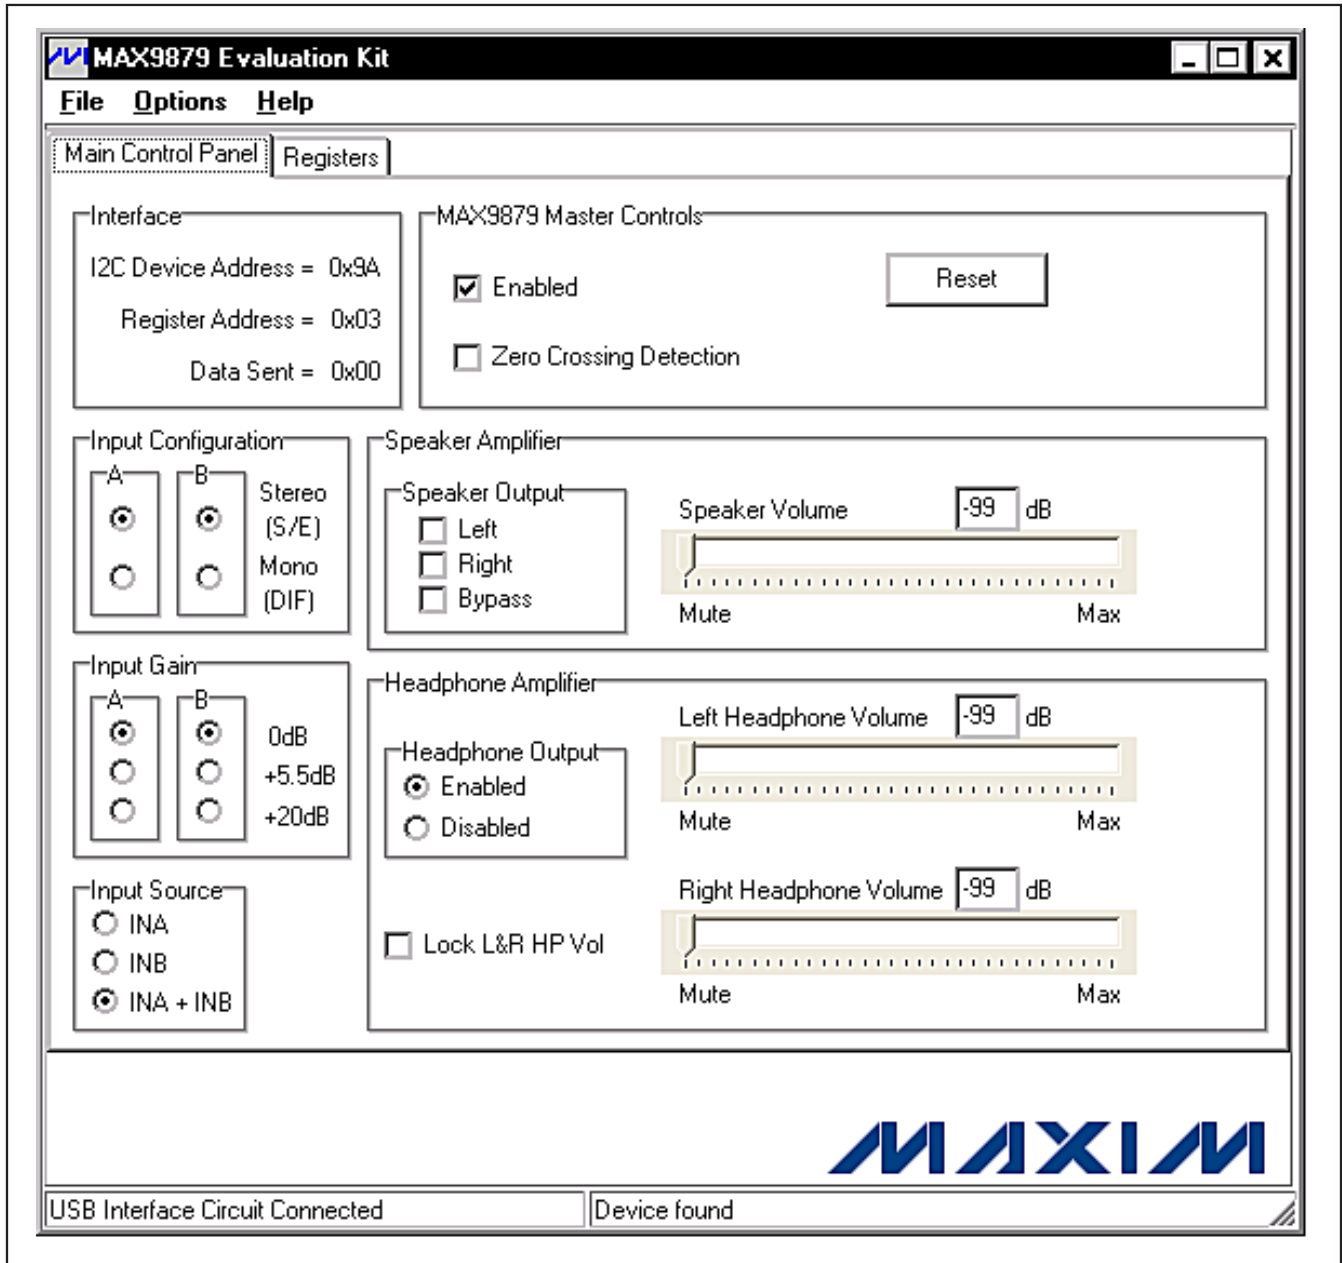
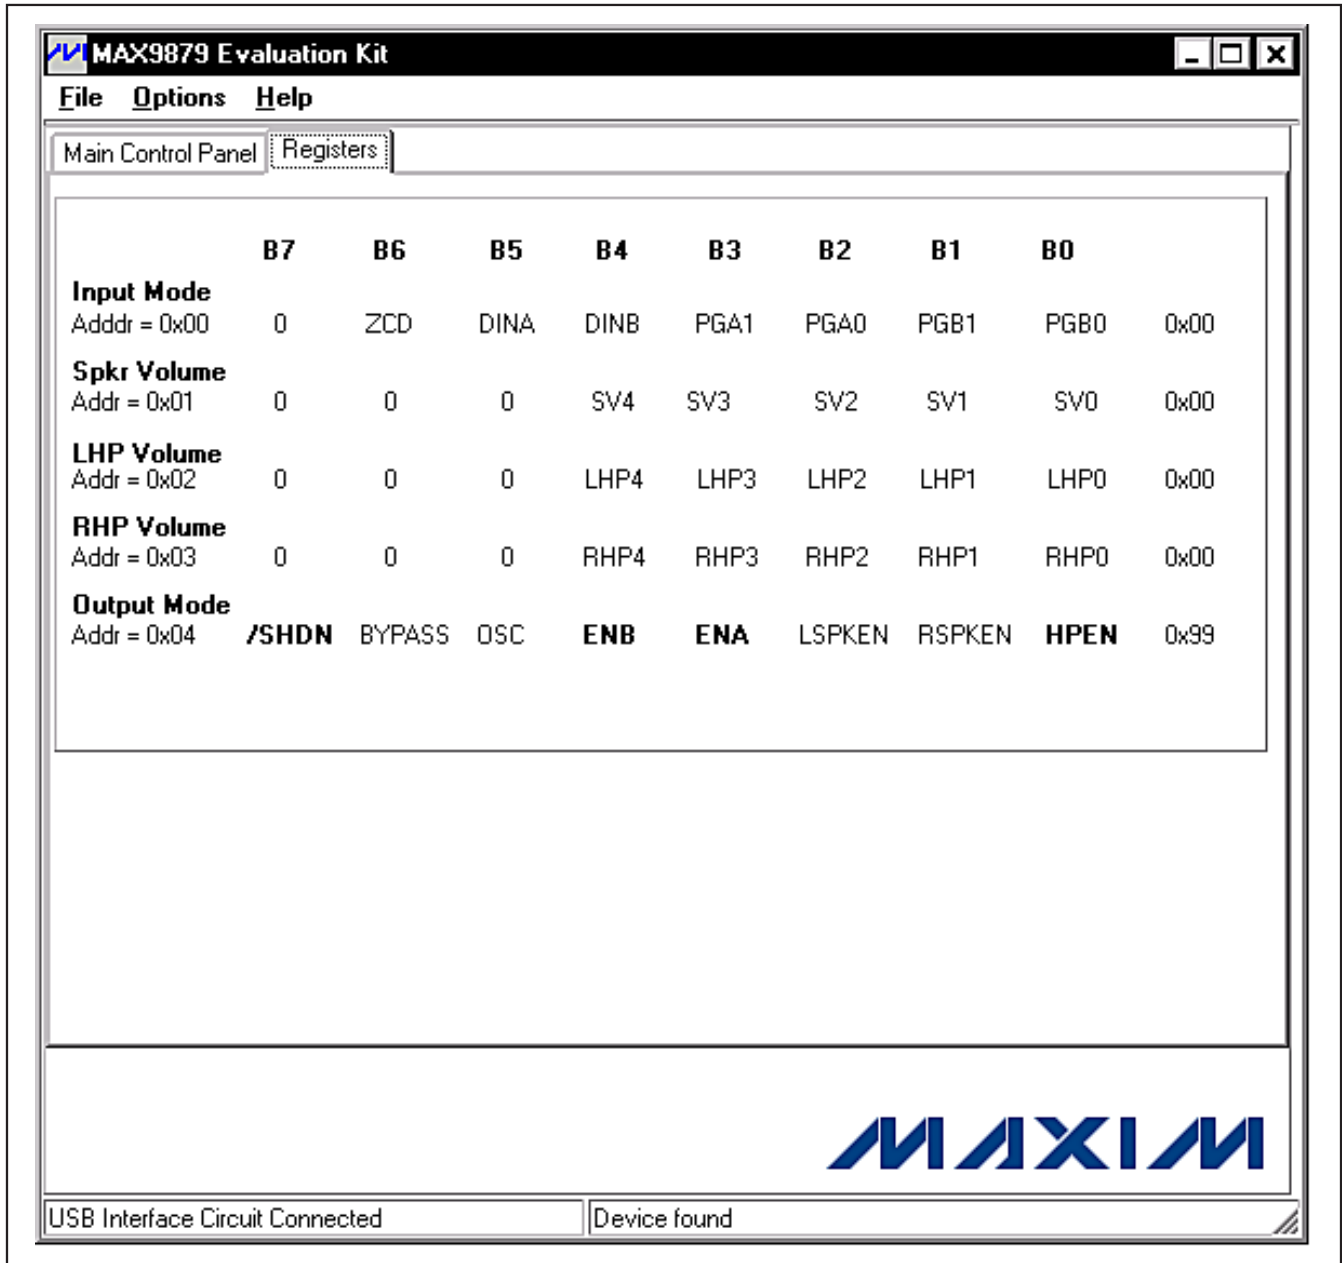

Figure 1. MAX9879 EV Kit Software Main Window (Main Control Panel Tab)
Figure 2. MAX9879 EV Kit Software Main Window (Registers Tab)
- 11) Start the EV kit software by opening its icon in the **Start | Programs** menu. The EV kit software main window appears, as shown in Figure 1. Observe as the program automatically detects the address of the MAX9879 and starts the main program.
The user interface (Figures 1 and 2) is easy to operate. Each button corresponds to bits in the command and configuration bytes. By pressing them, the correct I2C write operation is generated to update the internal registers of the MAX9879. The **Interface** group box (Figure 1) indicates the current **I2C Device Address**, **Register Address**, and the **Data Sent**, for the last write operation. This data is used to confirm proper device operation.
The MAX9879 EV kit software main window is divided into two tab sheets: **Main Control Panel** (Figure 1), for controlling the features of the IC, and **Registers** (Figure 2), for displaying a register overview of which bits are toggled.
The MAX9879 EV kit software **Registers** tab sheet (Figure 2) displays the data bit logic-level status for each individual register. A data bit shown in bold indi-